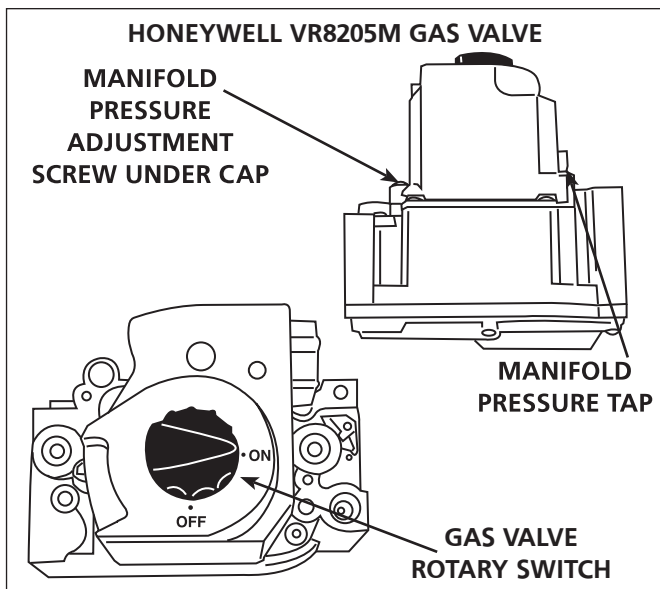

FIGURE 10
GAS VALVE OPERATION FOR HONEYWELL VR8205M SERIES VALVE (FIGURE 10)
- There is a black rotary switch knob that can be moved between the on and off position. Rotate the switch knob to the off position. (See Figure 10)
2. After line pressure has been checked and adjusted, check manifold pressure. Correct manifold pressure is shown on the unit rating plate. See **figure 10** for gas pressure adjustment screw location. A natural gas to LP/propane gas changeover kit is required to convert unit. Refer to installation instructions provided with changeover kit for conversion procedure.